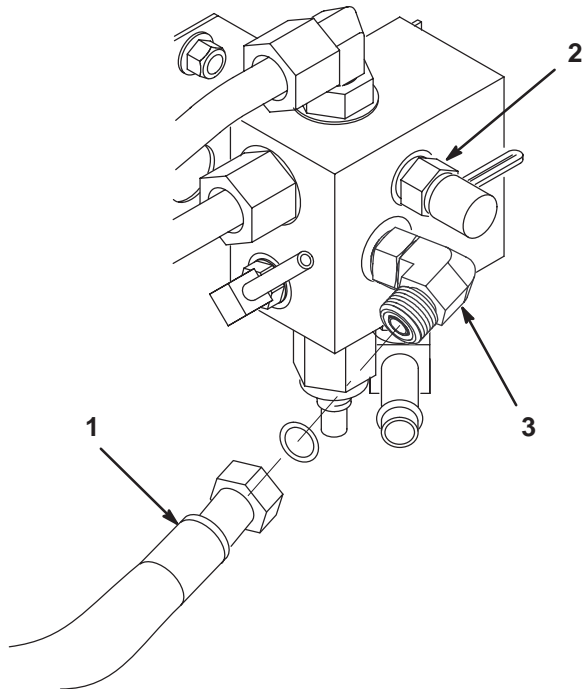

Figure 12
19. For the Groundsmaster 200 series only, route the hydraulic hose, previously removed from the elbow fitting on the bottom of the lift valve, to the rear of the right front engine mount and connect it to the OUT port elbow fitting on the side of the manifold block (Fig. 12).